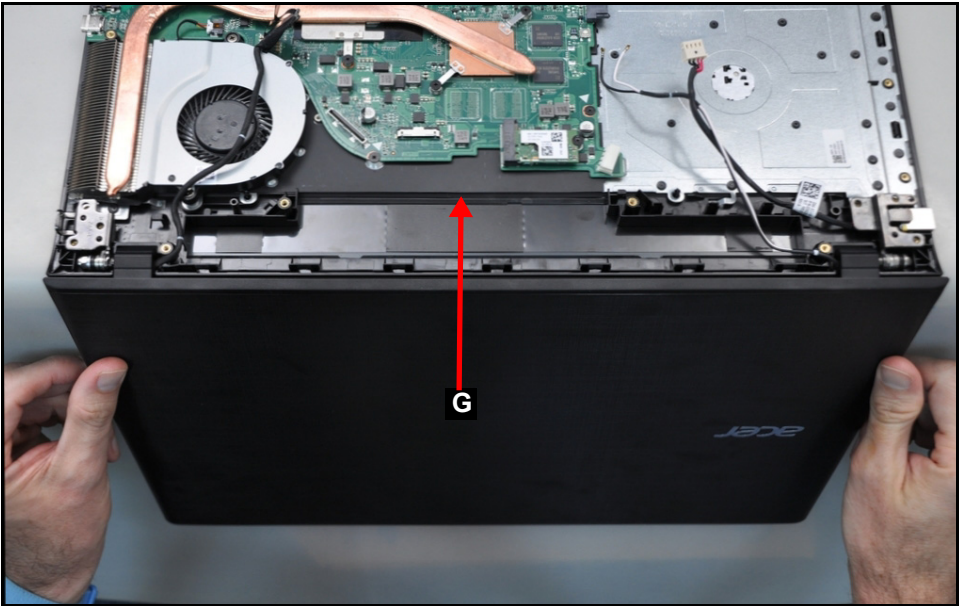

Figure 3-51. LCD Module Removal
9. Lift the LCD module (G) away from the top assembly (Figure 3-51).